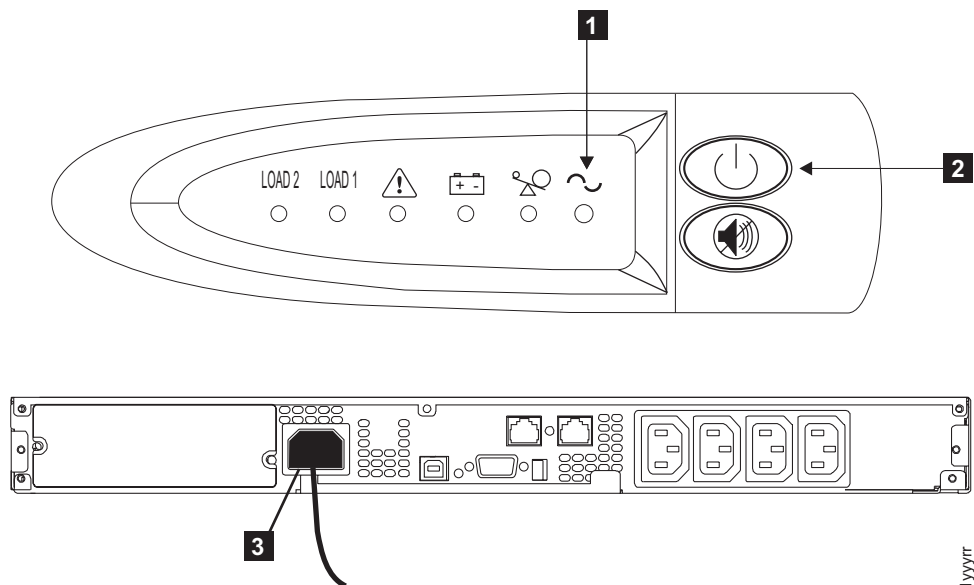

Figure 31. Removing the power cable from the uninterruptible power supply 5115
2. Press and hold the on/off button **2** for two seconds. The UPS 5115 will enter standby mode, with all indicators off. See Figure 31 for an illustration of the front and rear view of the UPS 5115.